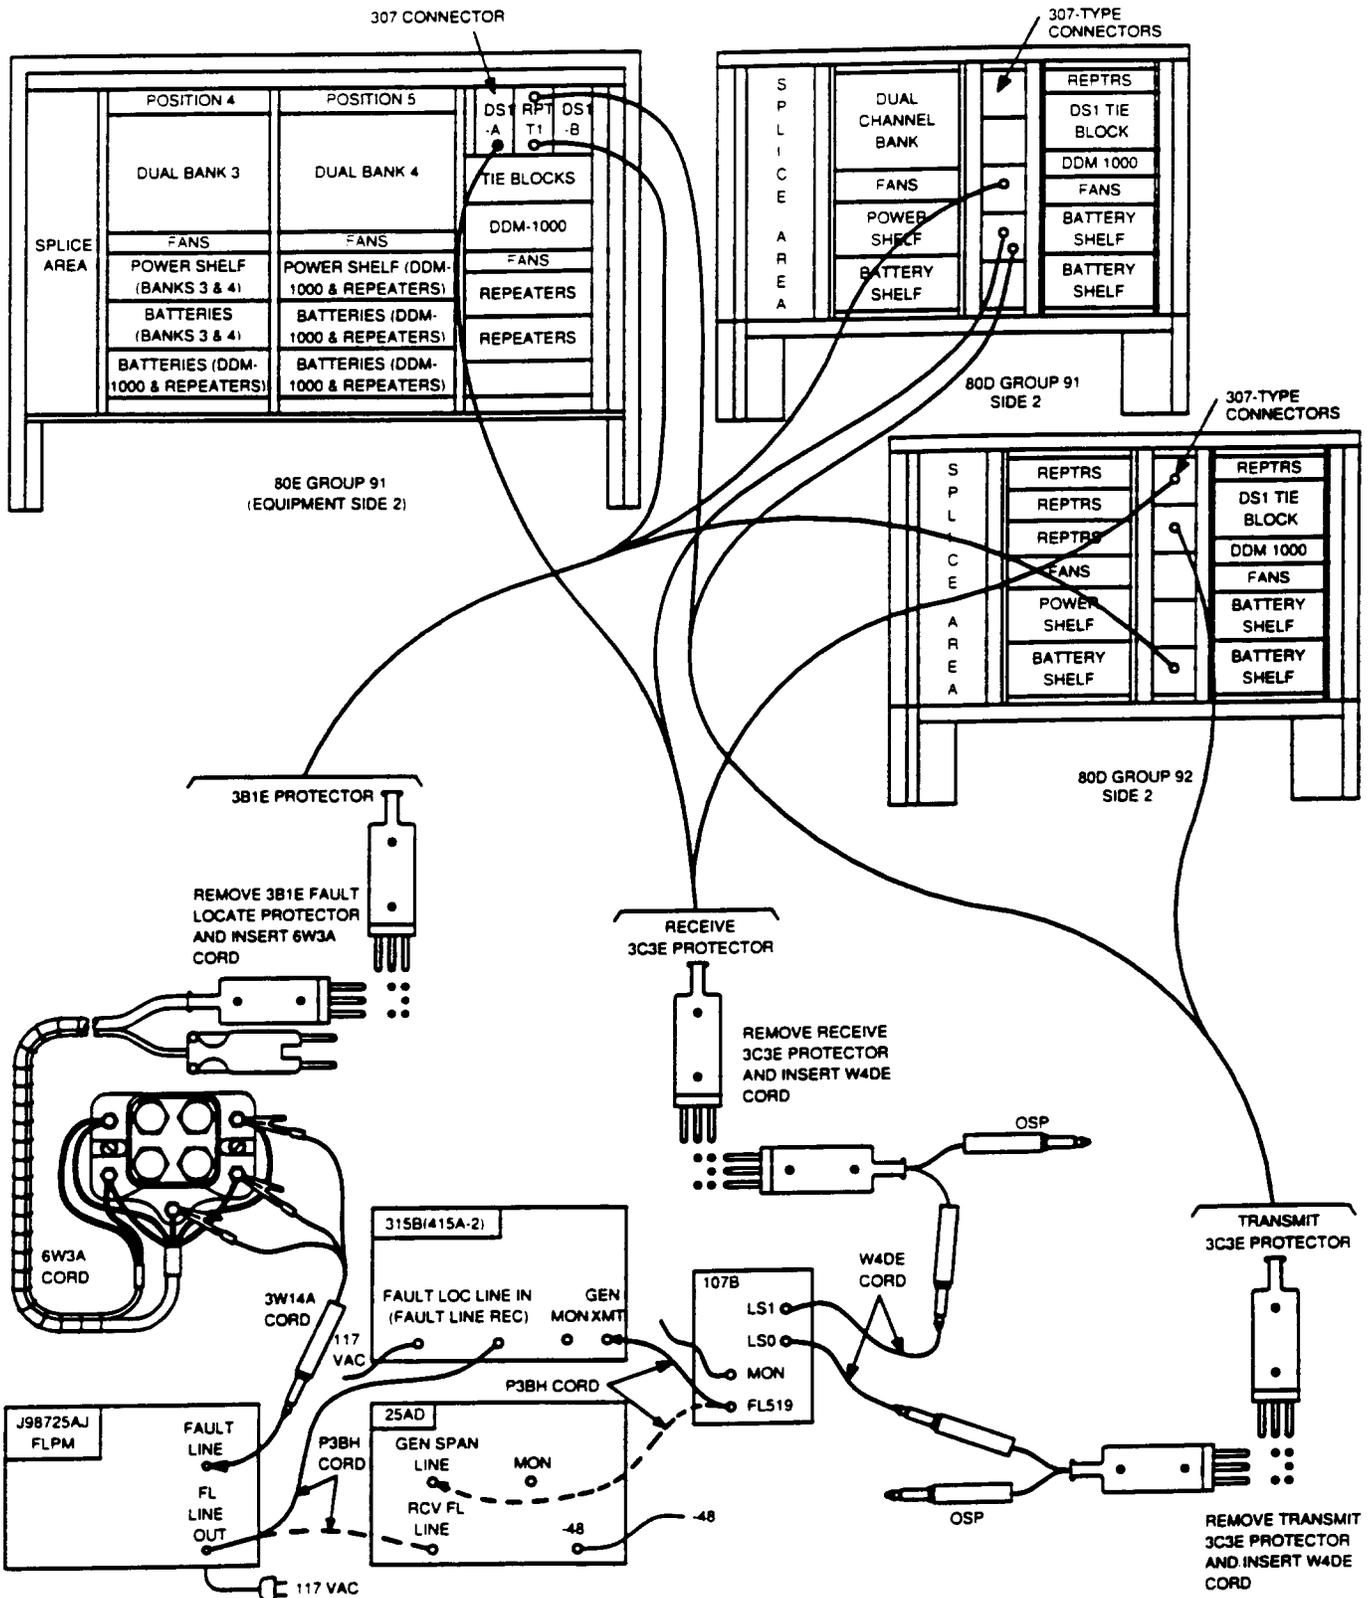

Figure 6—Typical Fault Locating Equipment Test Connections For T1 Line Access
9. Make fault locating test equipment connections to protectors positions of 307 block on 80-type cabinet frame side 2 as shown in FIG. 6. Refer to TABLE A, B, or C for protector appearances. Replace fault locate pair 3B1E protector with 6W3A test cord and connect 3W14A cord to FLPM. Remove 3C3E transmit pair protector and connect output of the 107B test set. Remove 3C3E receive pair protector and connect input of the 107B test set. Then continue with Step 11.